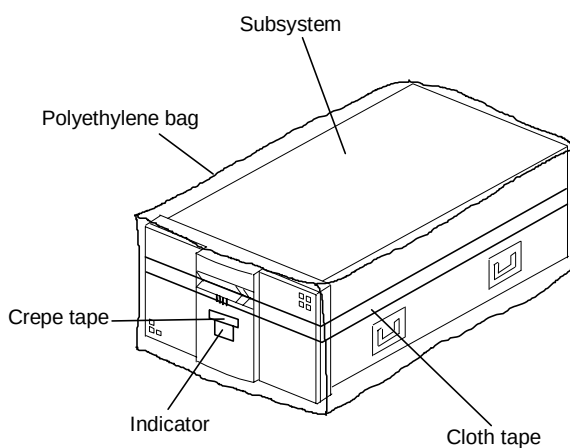
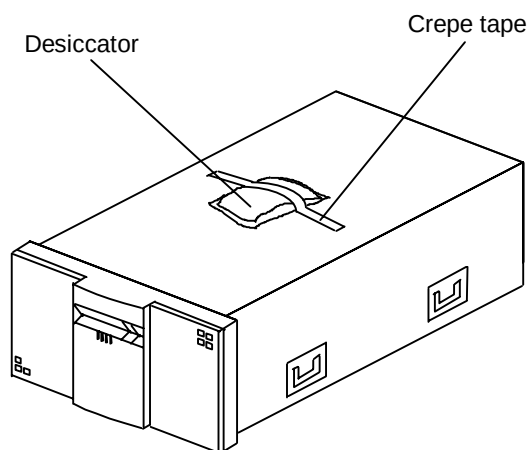

Figure 3.1.2 Subsystem without External Packaging
Figure 3.1.3 Location of Desiccantor
- (2) Figures 3.1.2 to 3.1.4 show the subsystem without external packaging.
- (3) Unpacking
- ① Loosen the polyester bands.
- ② Remove nails for T/W.
- ③ Remove the external packaging and packing materials.
- ④ Take the subsystem out of the polyethylene bag.
- ⑤ Keep keys (2pcs) in the box attached to the unit. (This key is used to open the front panel, so be careful not to lose.)
- ⑥ Remove shock absorbing material and tapes, etc. attached to the device.
- ⑦ Remove desiccating agent on the top of the device. (See Figure 3.1.3.)